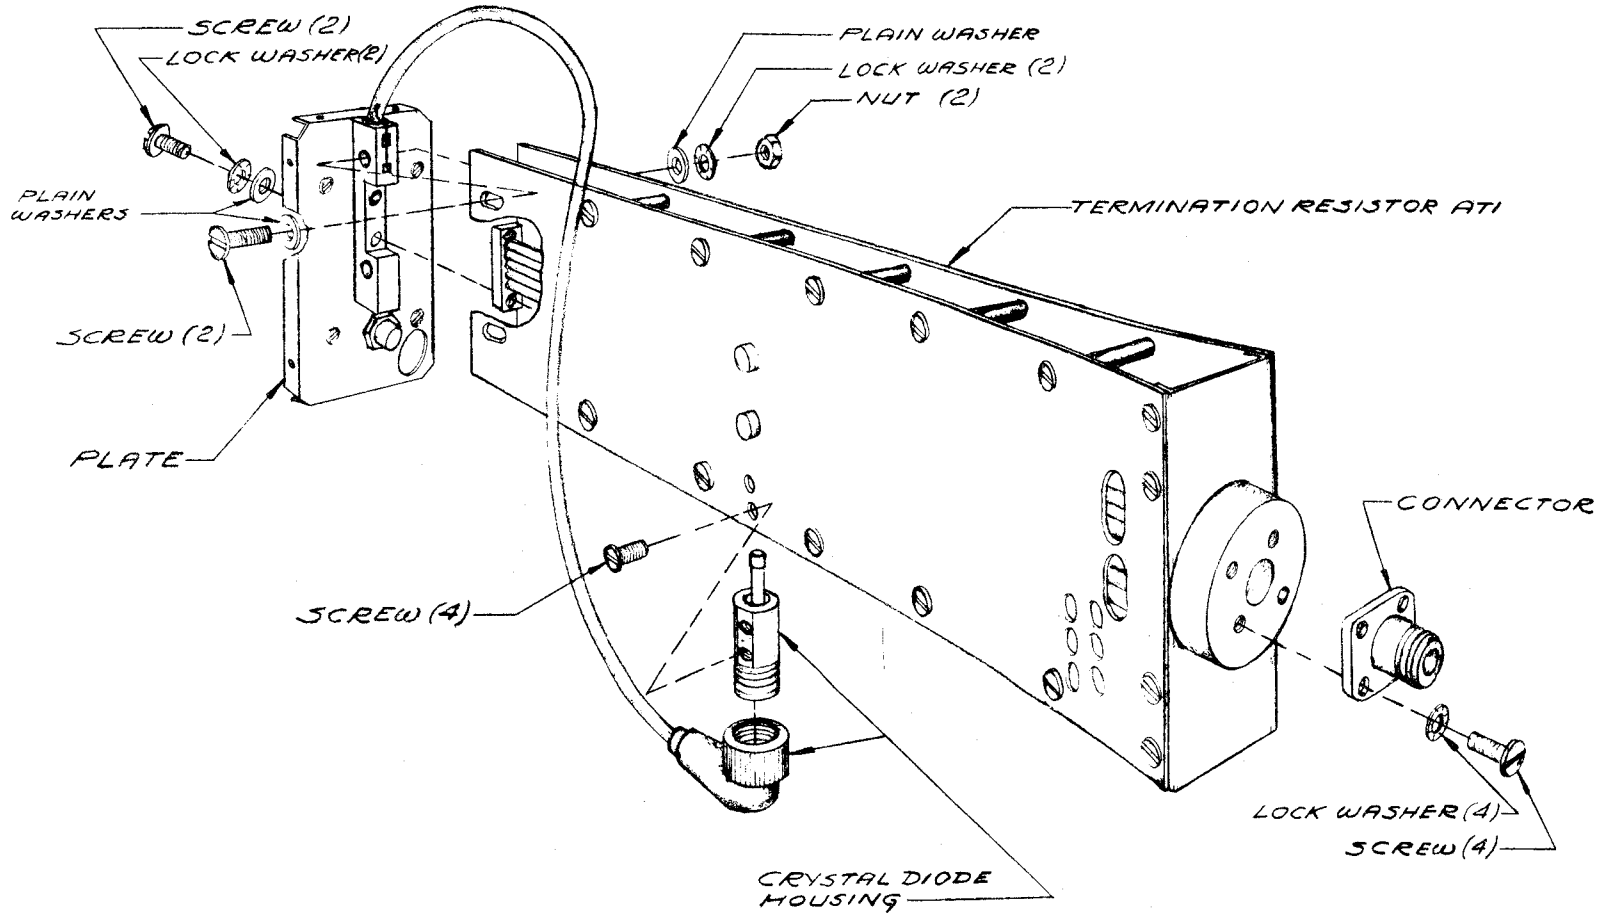

Figure 3-1 Termination Resistor Assy
- c. Remove two screws in the center of the plate and four screws in the end of the termination. Remove the connector. Refer to figure 3-1.